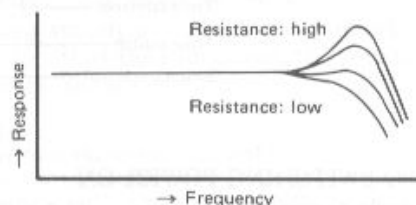
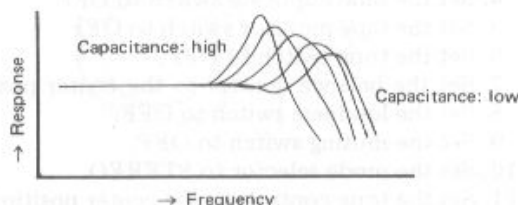

Fig. 9
Fig. 10
Typical moving magnet (MM) cartridges have resonance peaks at high frequencies, as shown in Fig. 9. However, the height of the peaks can be varied by changing the load resistance (ohms). The peaks increase as the resistance is increased. In addition, the resonance frequency (center of the peak frequency) can be varied by changing the load capacitance (pF), as shown in Fig. 10. If the capacitance is increased, then the resonance frequency is lowered and the peaks are increased. To provide the best characteristics of your cartridge, set the "pF" and "ohms" switches, following the instructions outlined below. By combining these two knobs, you will be able to obtain a variety of different high-frequency responses.
The example in Fig. 9 shows typical high-end frequency curves. In a case like this, adjust both switches for the desired response while listening to a record. With ordinary MM cartridges, the values are 50 kilohms and 100pF ~ 200pF.